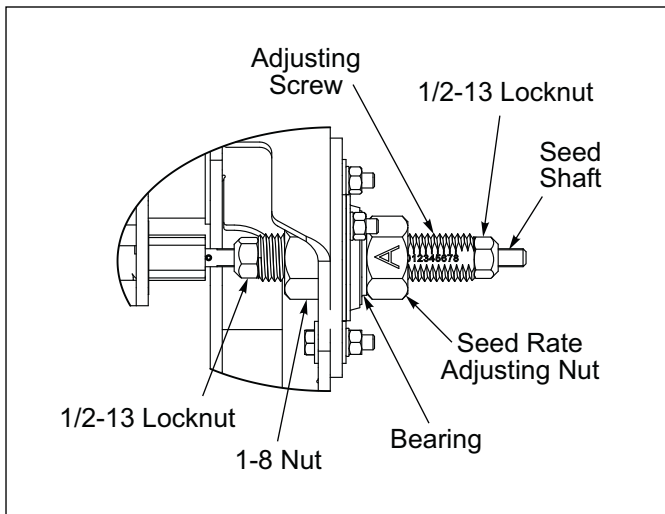

Figure 2-44: Rear Box Seed Rate Adjuster
25. Assemble onto the Rear Seed Box Seed Shaft the Seed Rate Adjusting Screw, 1-8 Nut, Bearing, Seed Rate Adjusting Nut and 1/2-13 Locknut. Place Bearing between Flangettes and attach to Bearing Carrier with 5/16-18 x 1 Bolts, Lock Washers and Nuts. **See Figures 2-44 and 2-45.**